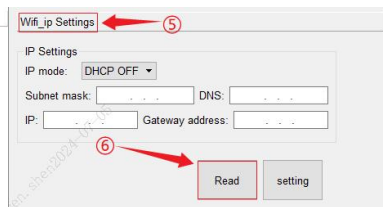

Fig.2
4. Select "wifi_ip Settings" and click "Read" to obtain IP information (shown in Figs.2 and 3).